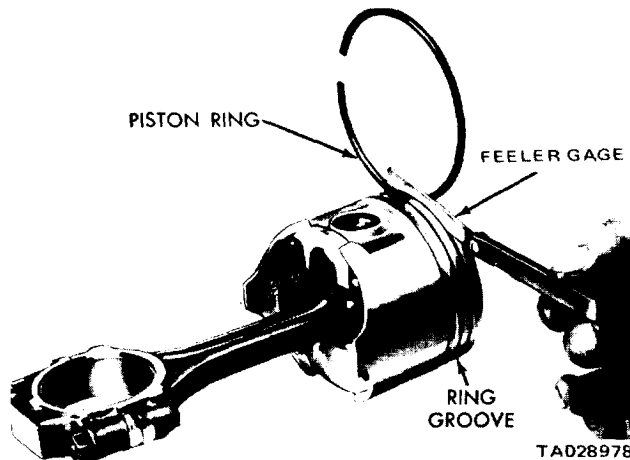

Figure 11-15. Measuring Piston Ring Side Clearance.
(2) Insert a feeler gage in the gap. The minimum ring gap is 0.010 inch for compression rings and 0.015 inch for oil ring steel rails.
(3) Measure the side clearance between the piston ring and the ring land (figure 11-15). Clearance should be 0.0015 to 0.003 inch for the top compression ring and the intermediate ring. The oil ring steel rail should be free in the groove.